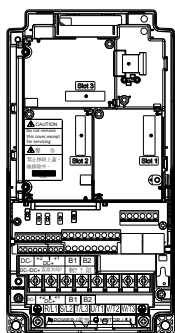
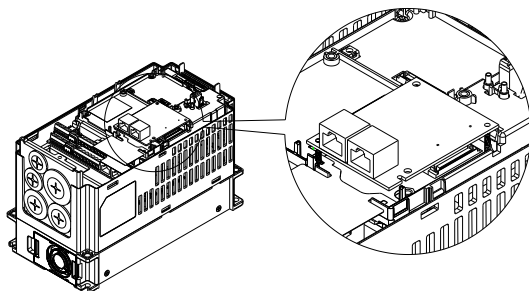

Figure 1
Figure 2
- Place the insulation spacer into the positioning pin at Slot 1 (see Figure 1), and line-up the two holes on the PCB at the positioning pin. Press the pin to clip the holes on the PCB (see Figure 2).